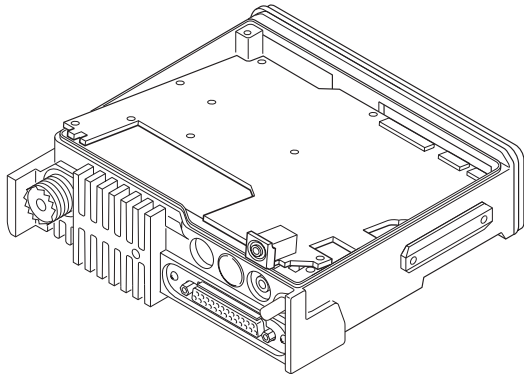

Fig.3
- (1) With the Main PCB turned over, insert the flat cable from the D-sub PCB (Main unit B/2) into the connector (CN906) on the Main PCB.
- (2) Place the Main PCB at its original position as shown in Figure 3.